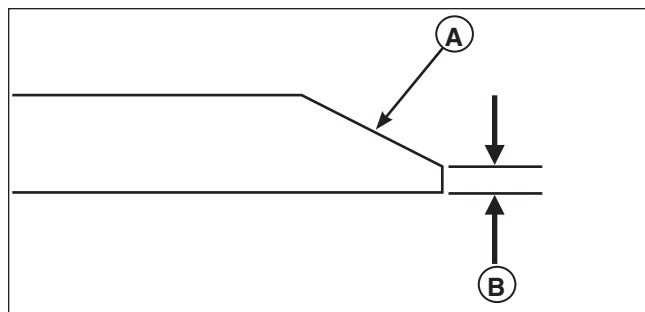

Figure 21. Sharpening the Mower Blade
- Keep the original bevel (**A**, **Figure 21**) when grinding. **DO NOT** change the mower blade bevel.